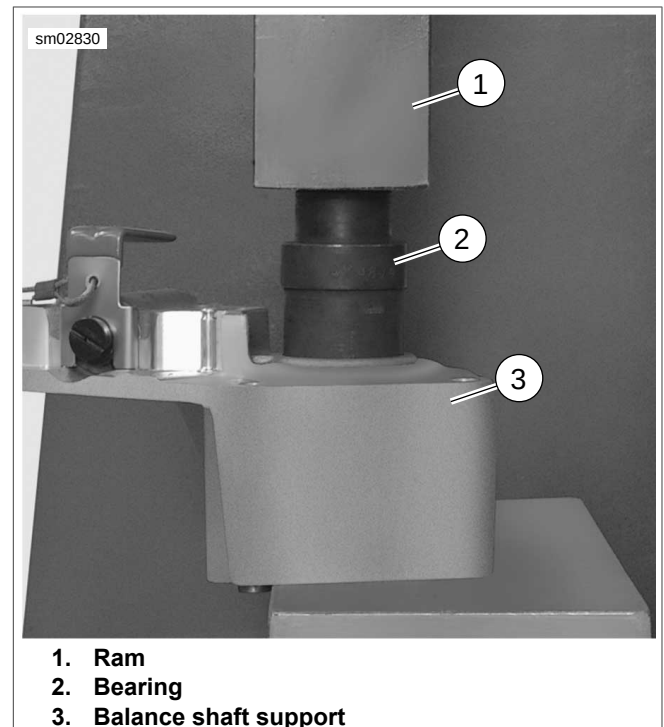

Figure 3-157. Removing Bearing from Shaft Support
- See Figure 3-157. Place housing (3) on a suitable support with top surface facing up.
- Place bearing remover end of **OUTER BALANCER BEARING REMOVER AND INSTALLER** (Part No. HD-48474) (2) over bearing.
- Center bearing remover under ram (1) of press. Slowly lower ram to remove bearing.